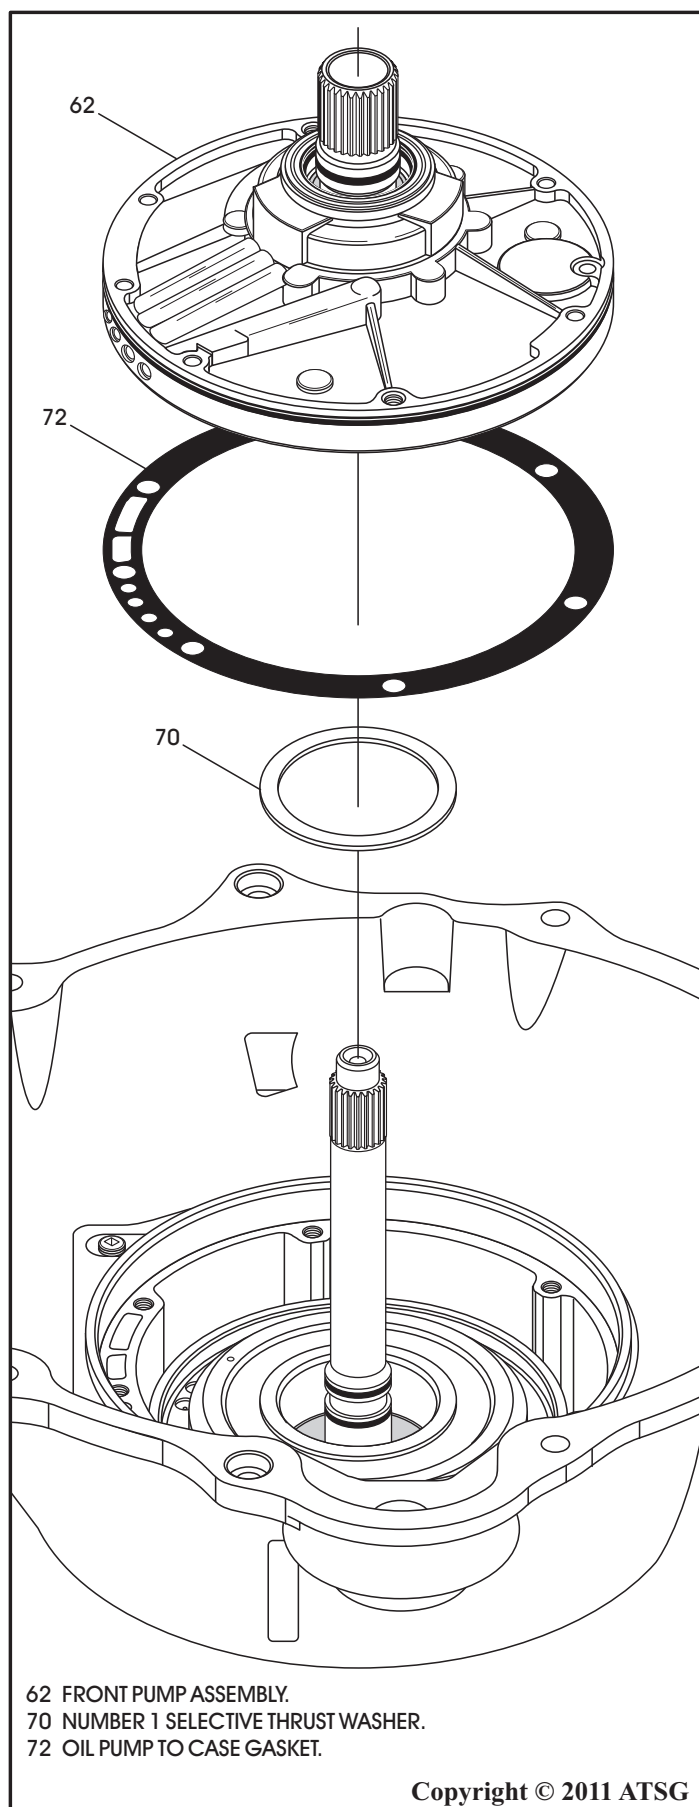

Figure 77
37. Loosen and remove the oil pump assembly, as shown in Figure 77.
39. Remove and discard the oil pump to case gasket, as shown in Figure 77.
40. Remove the number 1 selective thrust washer, as shown in Figure 77.